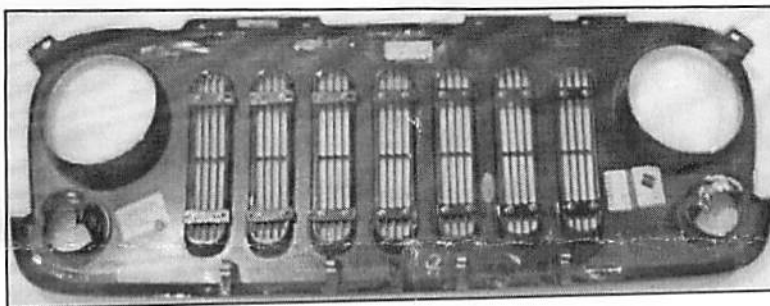

Figure 3 – Rear view of vehicle's shell; Billet Grills attached with Metal Brackets and Flange Nuts
5. **Loosely** attach the Billet Grille by holding the Metal Brackets behind factory grille shell and inserting the Phillips Screws (from the front) through the Billet Grille holes and Metal Brackets, secure them with Flange Nuts provided (Figure 3).